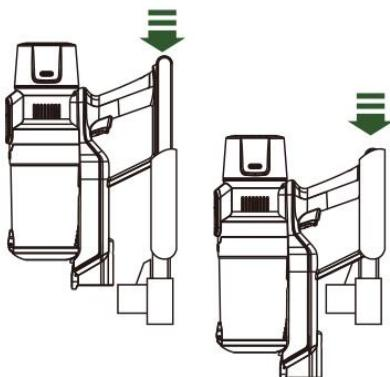

Fig. 2
2. Simply dock the appliance into the charging seat for re-charging (Fig.2). Plug the charging adapter into the power socket.